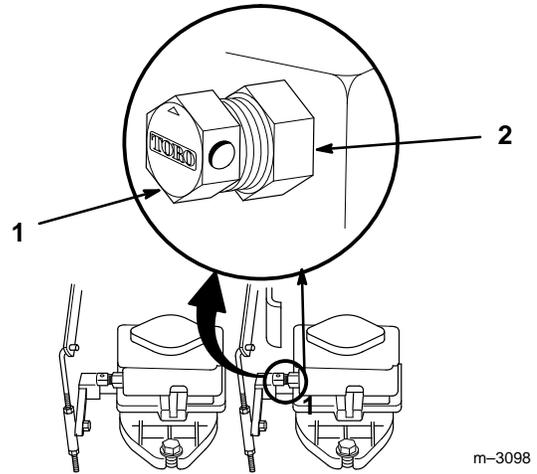

Figure 30
9. Loosen large jam nut several turns (Fig. 30).
10. Gently close by-pass valve (Fig. 30).
11. Open by-pass valve 1/2 turn (Fig. 30).
12. Tighten jam nut to lock the adjustment (Fig. 30).